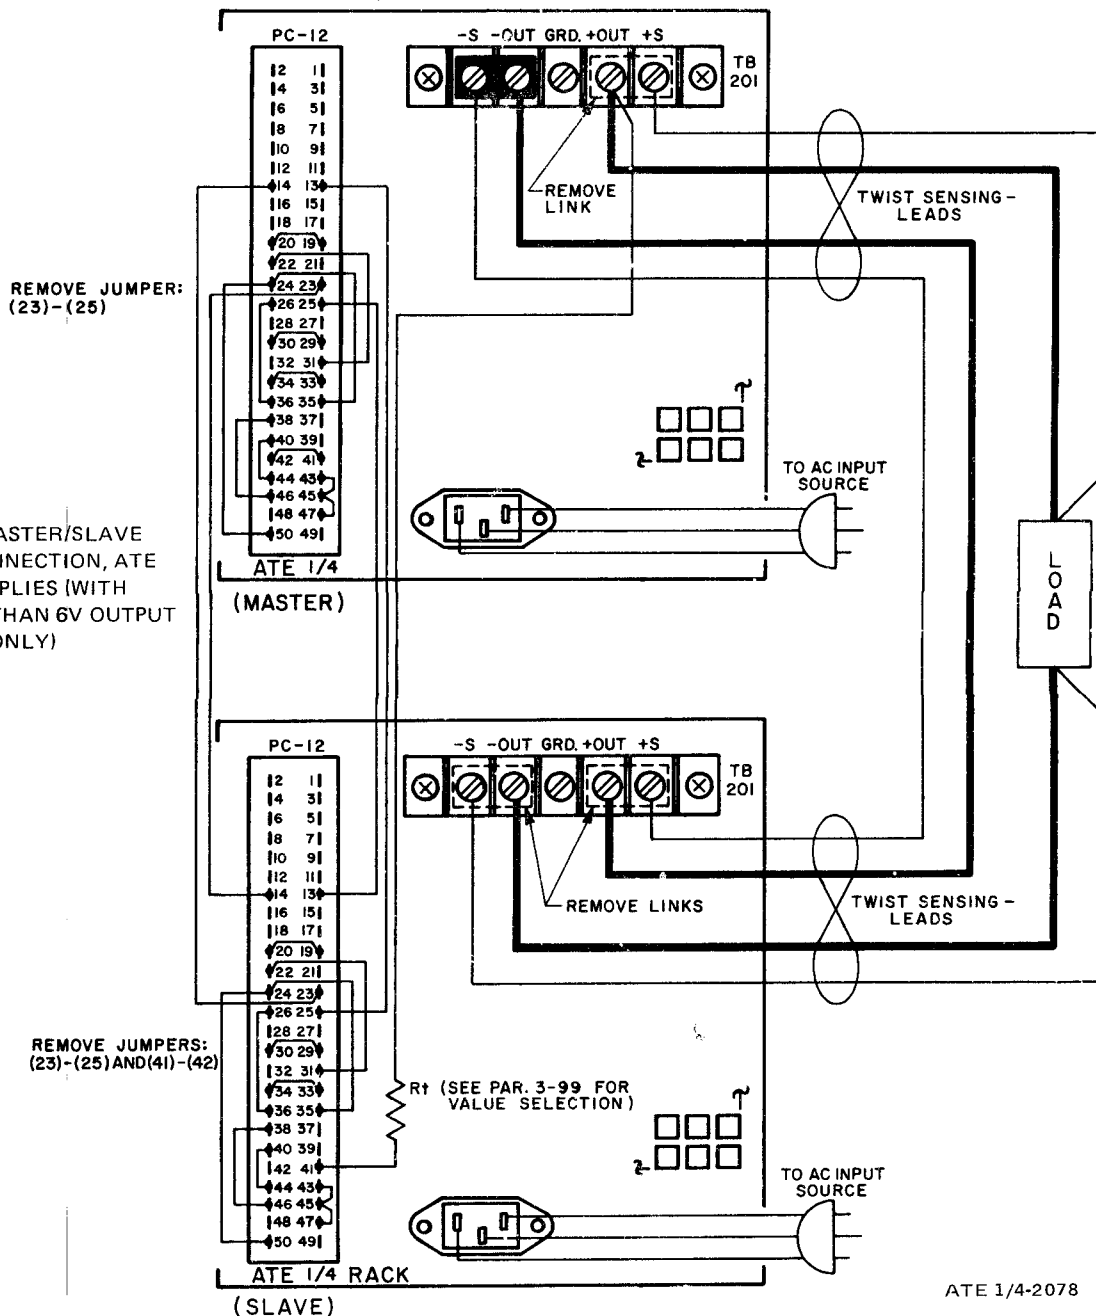

FIG. 3-22 MASTER/SLAVE SERIES CONNECTION, ATE POWER SUPPLIES (WITH GREATER THAN 6V OUTPUT VOLTAGE ONLY)
$R_t = \frac{55V}{1\text{mA}} - 10\text{K} = 45\text{K ohms}$, and connecting the system as shown in FIG. 3-22 will produce the desired result.
- 3) Interconnect power supplies as shown in FIG. 3-22 Note: Only one SLAVE unit is shown, but more can be added. Turn MASTER supply VOLTAGE CONTROL to its maximum counterclockwise position.